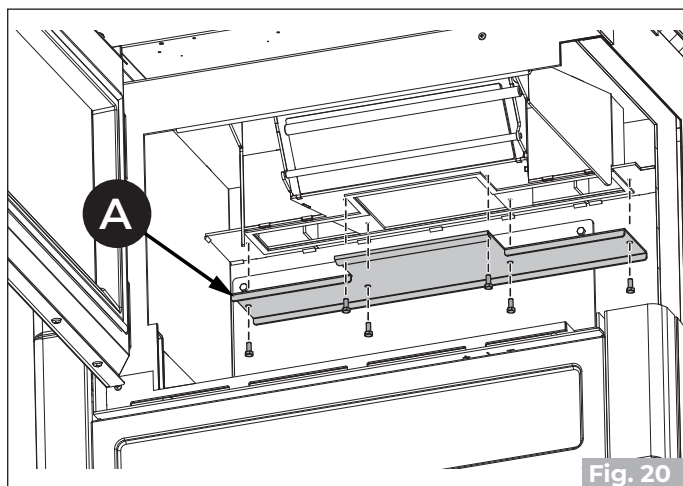

Fig. 20
Remove the flue manifold cap (A) (Fig. 20).